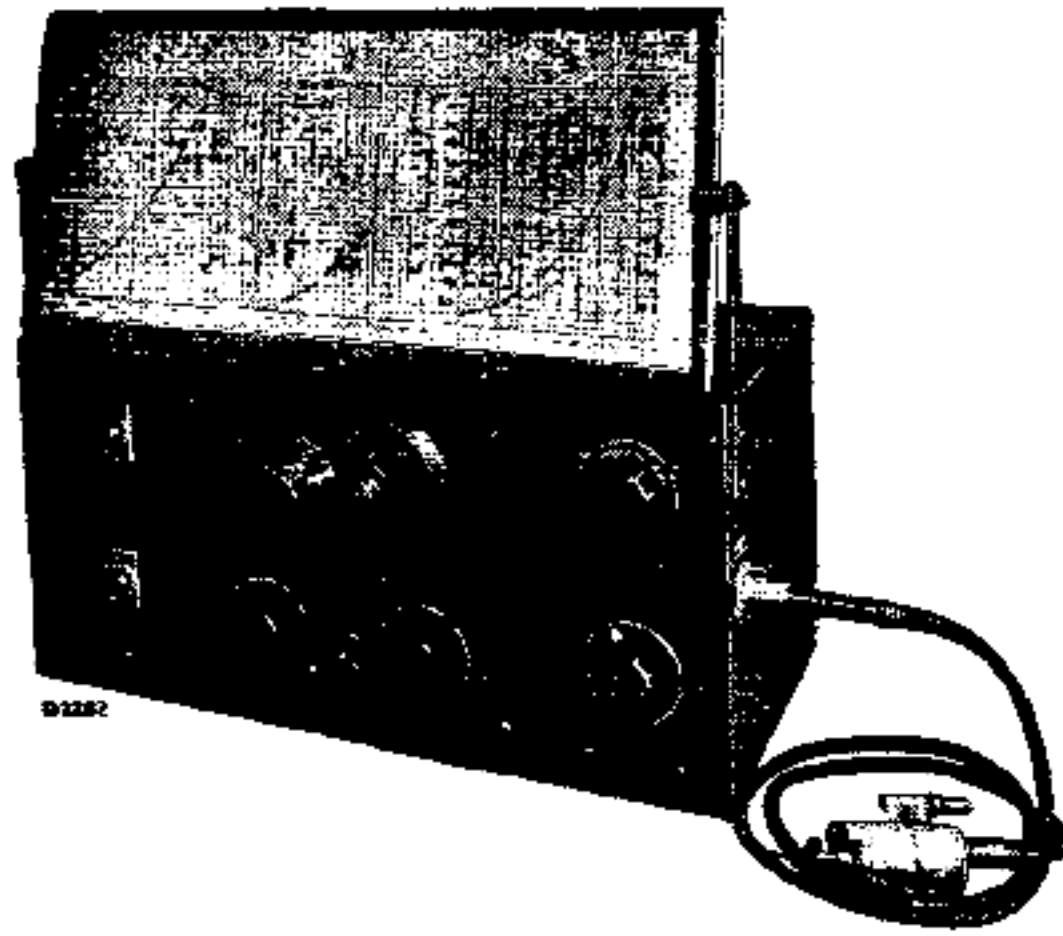

Fig. 1
1. Service Oscillator G.M. 2880 F (fig. 1).